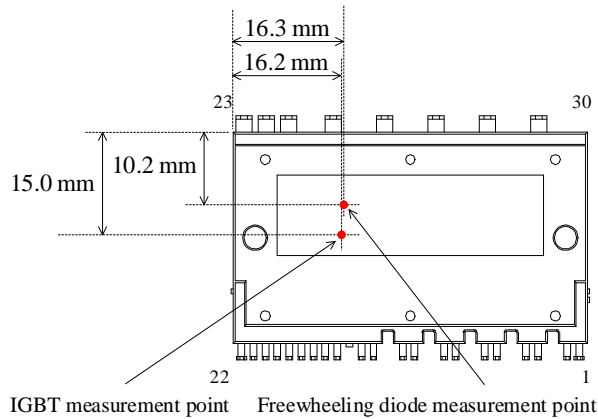

Figure 4-5. Case Temperature Measurement Point
- ⁽²⁾ Refers to a case temperature at the measurement point described in Figure 4-5.